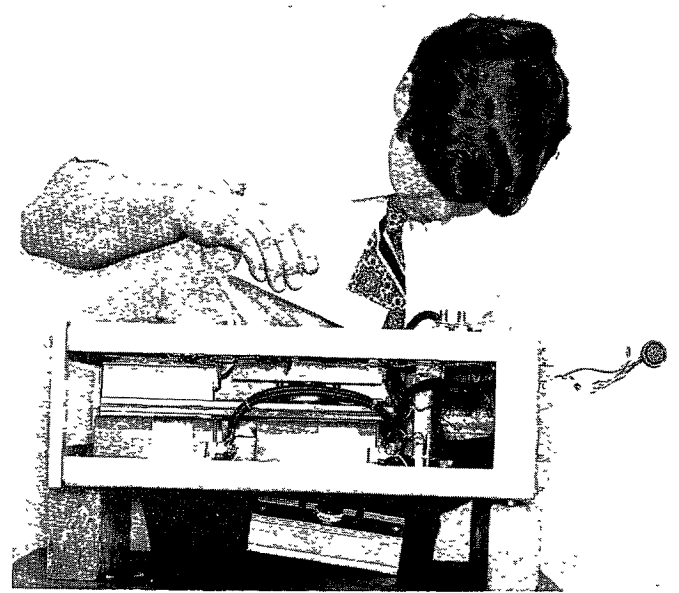

FIGURE 13
4. Remove the insulation board containing the AC bus and ferrite core assemblies from the Converter Module (See Figure 13).